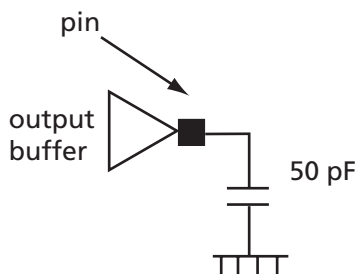

Figure 2-8 • 5V PCI Output Loading
4. This parameter is to be interpreted as the cumulative edge rate across the specified range, rather than the instantaneous rate at any point within the transition range. The specified load is optional; i.e., the designer may elect to meet this parameter with an unloaded output per revision 2.0 of the PCI Local Bus Specification (Figure 2-8). However, adherence to both the maximum and minimum parameters is now required (the maximum is no longer simply a guideline). Since adherence to the maximum slew rate was not required prior to revision 2.1 of the specification, there may be components in the market that have faster edge rates; therefore, motherboard designers must bear in mind that rise and fall times faster than this specification could occur and should ensure that signal integrity modeling accounts for this. Rise slew rate does not apply to open drain outputs.